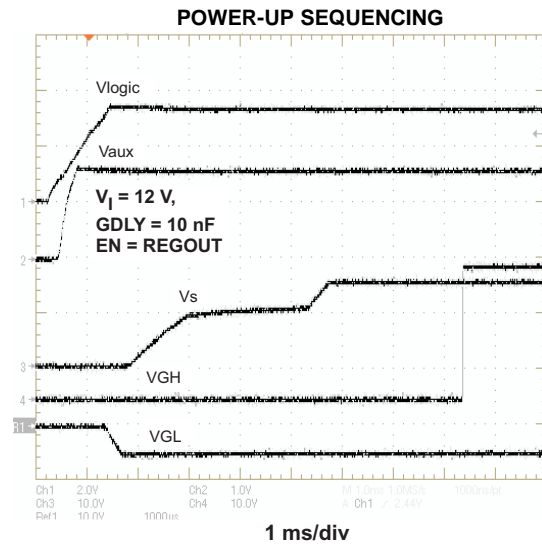
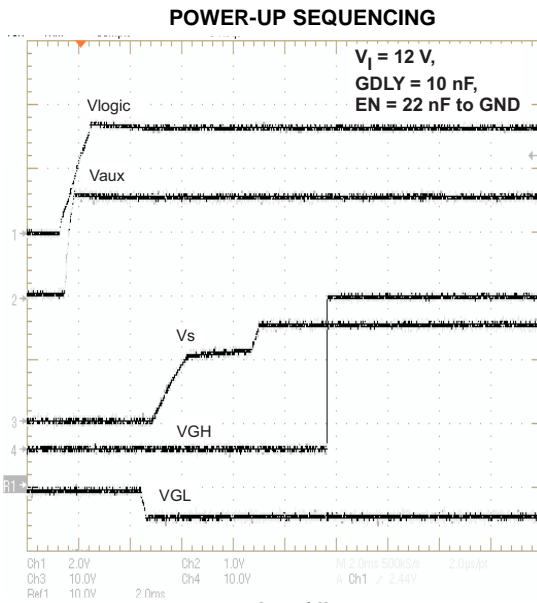
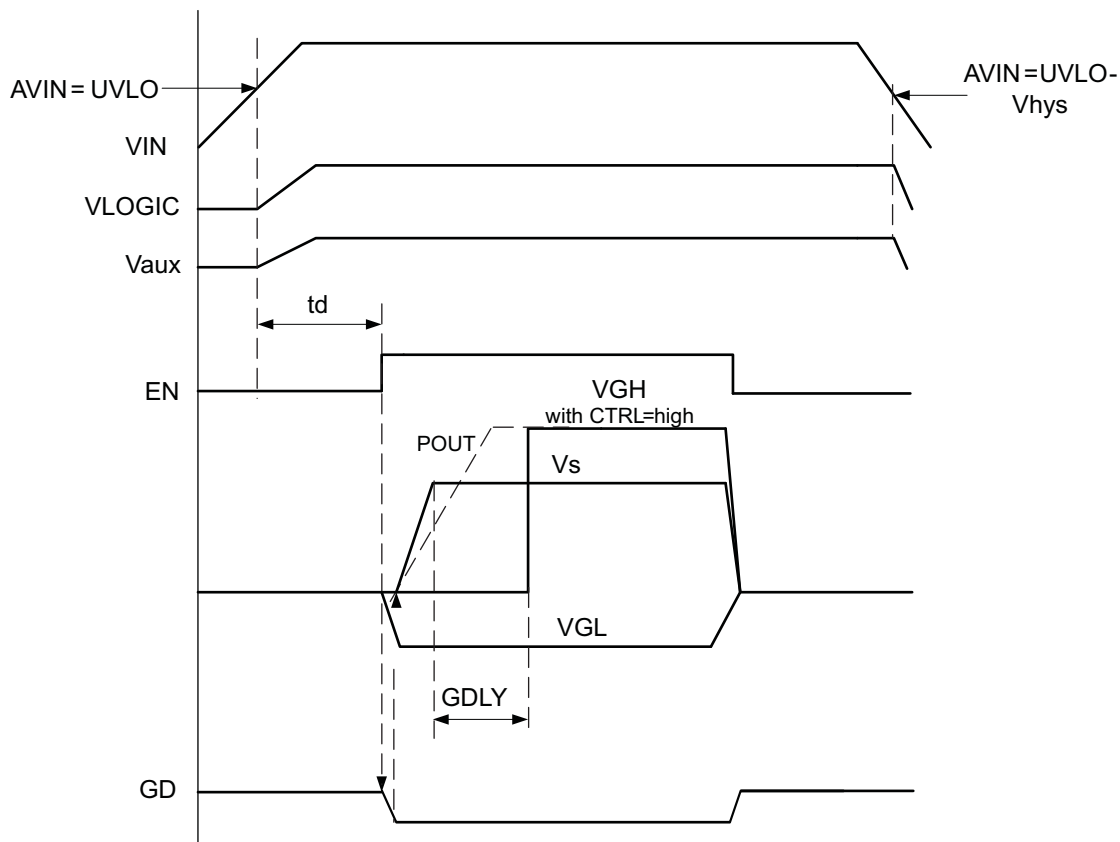

Figure 18.
Figure 19.
Figure 23. Power Up Sequencing
The device has an adjustable start-up sequencing to provide correct sequencing as required by LCD. When the input voltage exceeds the undervoltage lockout threshold, then the step-down converter and LDO controller start-up at the same time. As the enable signal (EN) goes high, the negative charge pump starts up followed by the boost converter  $V_s$  starting at the same time as the positive charge pump. See the typical curves shown in Figure 18, Figure 19, and Figure 23.
If no logic control signal is available, it is also possible to connect a capacitor to this pin to set the delay time  $t_d$  as shown in Figure 23 and Figure 19.